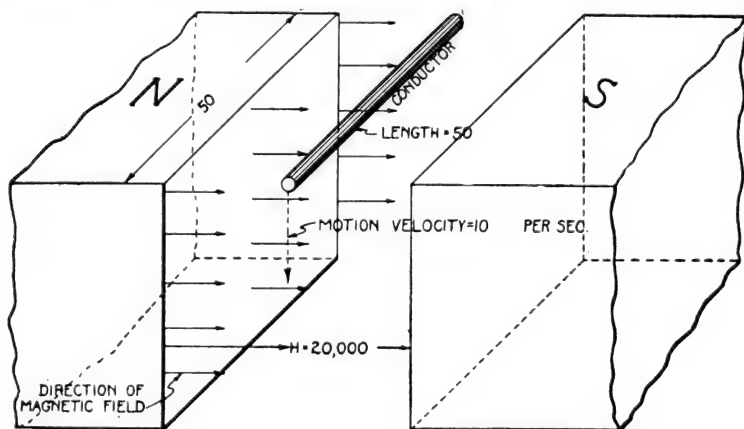
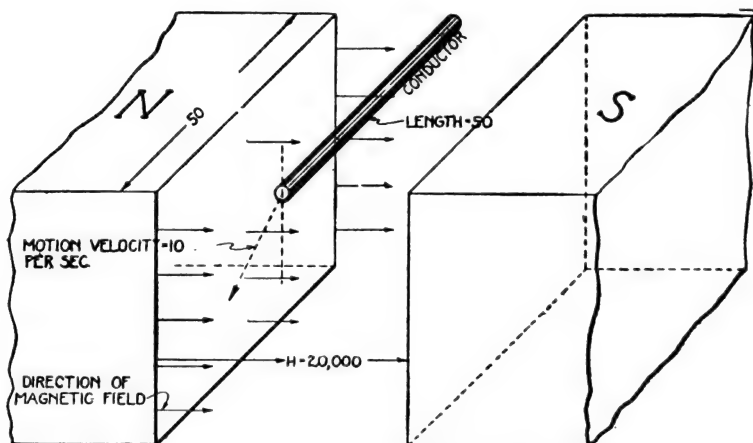
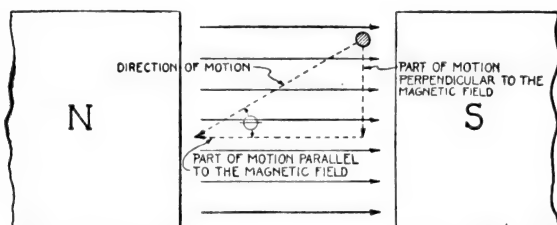

Fig. 1. Horizontal Conductor Moving Downward across a Uniform Magnetic Field—Motion Perpendicular to Field
Fig. 2. Horizontal Conductor Moving Downward across Uniform Magnetic Field—Motion Not Perpendicular to Field
Fig. 3. Motion of Conductor Resolved into Two Components—One Perpendicular to Field and One Parallel to Field
*E.M.F. Depends on Rate Lines Are Cut.* The value of this induced e.m.f. at any instant will depend upon the rapidity with which the lines of force are being cut by the conductor at that particular instant. If the lines of force are being cut at a perfectly uniform rate, that is, if the same number are cut in each succeeding fractional part of a second, say one hundredth part of a second, and there is a total of 100,000,000 lines cut in one second, then there will be an e.m.f. of one volt induced in the conductor. Thus if a horizontal conductor 50 inches long were moved downward across a horizontal magnetic field whose intensity is 20,000 lines of force as indicated in Fig. 1, at a uniform velocity of 10 inches each second, all the magnetic lines in the area  $10 \times 50$  inches would be cut in one second. Since there are 20,000 magnetic lines passing through each unit of area, then the total number of magnetic lines cut by the conductor in one second will be equal to  $10 \times 50 \times 20000$ , or 10,000,000. Dividing 10,000,000 by 100,000,000 gives 0.1 volt, the value of the e.m.f. induced in the conductor.
The motion of the conductor in Fig. 1 is perpendicular to the direction of the magnetic field, and, as a result, more magnetic lines are cut by the conductor when it moves a certain distance along its path than would be cut if the motion of the conductor were along a path making an angle of less than  $90^\circ$  with the direction of the magnetic field, Fig. 2.
In Fig. 2 it is that part of the velocity of the conductor perpendicular to the direction of the magnetic field that determines the rate of cutting of the magnetic lines. This part of the velocity of the con-
ductor is indicated by a dotted vertical line downward from the conductor, Fig. 2. It is also illustrated in Fig. 3 where the diagonal line "direction of motion" is divided up into "part of motion perpendicular to the magnetic field" and "part of motion parallel to the magnetic field."
When the angle between the direction of motion of the conductor and the magnetic field is  $30^\circ$  as in Fig. 3, that "part of the motion perpendicular to the magnetic field" is only one-half of the "direction of motion." This can be verified by measuring the two dotted lines in Fig. 3. A change in the angle  $\theta$  from  $30^\circ$  to  $45^\circ$  or  $60^\circ$  will cause a greater part of the "direction of motion" to be "perpendicular to the magnetic field." When this angle  $\theta$  becomes  $90^\circ$ , all the "direction of motion" will be "perpendicular to the magnetic field." Thus that part of the motion that is perpendicular to the magnetic field has to be determined before the voltage can be determined.
**Analysis of Operation.** *Straight Conductor.* When the conductor, Fig. 1, has moved downward a sufficient distance to be